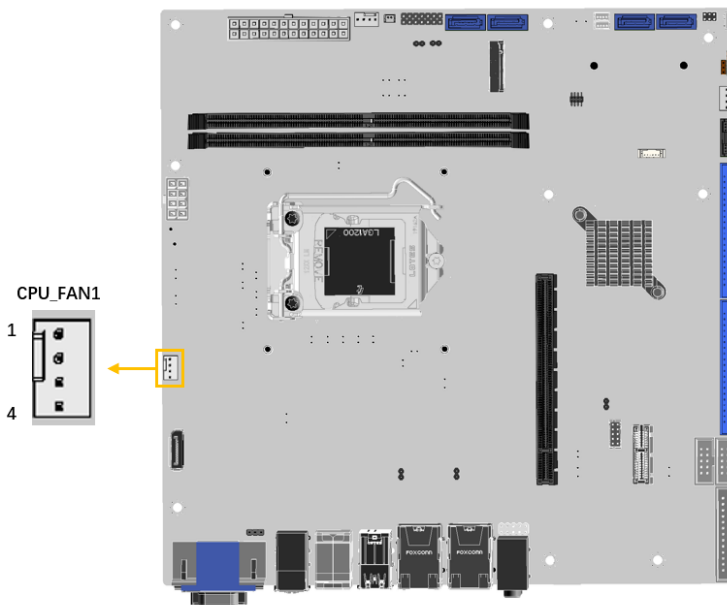

Figure 3-12: CPU Fan Connector Location
- CN Location:** See **Figure 3-12**